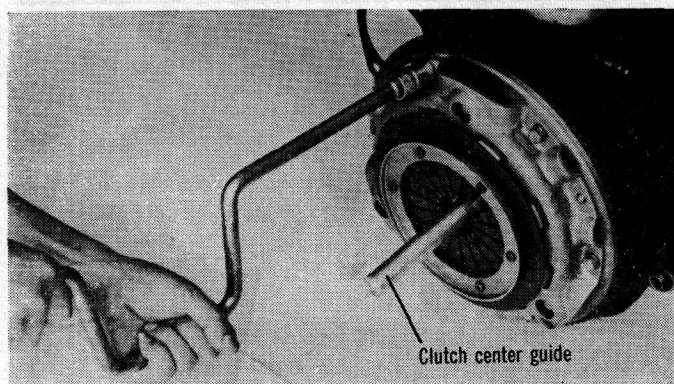

Fig. 13 Removing the Clutch
(5) Using the special tool Clutch Center Guide D998017, hold the clutch disk firmly and remove the clutch assembly and disk. (Fig. 13)